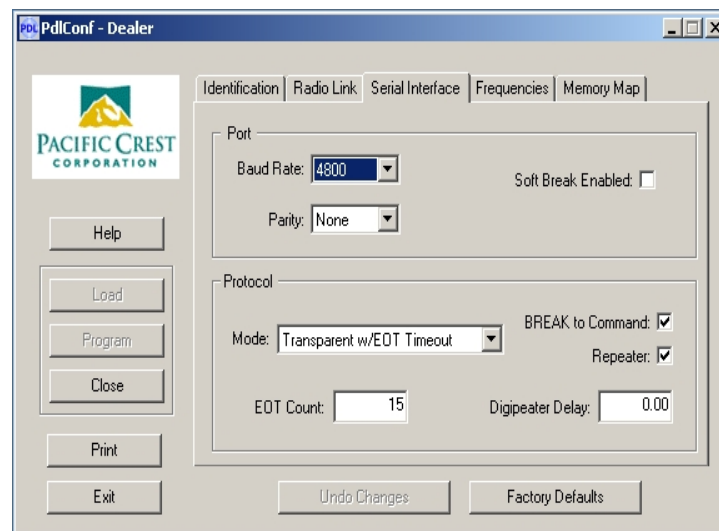

Figure 53. Serial Interface Tab
(4) Serial Interface Tab.
- (a) The Serial Interface Tab (see Figure 53) allows the user to enter the Port and Protocol parameter values for the RF Modems. Table 4 displays the parameters and the required values associated with the Serial Interface Tab.